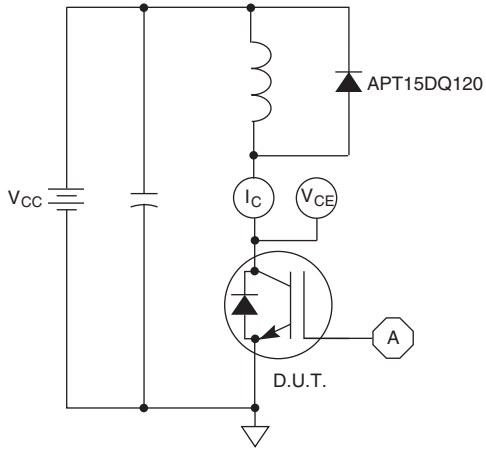

Figure 21, Inductive Switching Test Circuit
① Repetitive Rating: Pulse width limited by maximum junction temperature.
② For Combi devices,  $I_{ces}$  includes both IGBT and FRED leakages
③ See MIL-STD-750 Method 3471.
④  $E_{on1}$  is the clamped inductive turn-on energy of the IGBT only, without the effect of a commutating diode reverse recovery current adding to the IGBT turn-on loss. Tested in inductive switching test circuit shown in figure 21, but with a Silicon Carbide diode.
⑤  $E_{on2}$  is the clamped inductive turn-on energy that includes a commutating diode reverse recovery current in the IGBT turn-on switching loss. (See Figures 21, 22.)
⑥  $E_{off}$  is the clamped inductive turn-off energy measured in accordance with JEDEC standard JESD24-1. (See Figures 21, 23.)
⑦  $R_G$  is external gate resistance, not including  $R_{Gint}$  nor gate driver impedance. (MIC4452)